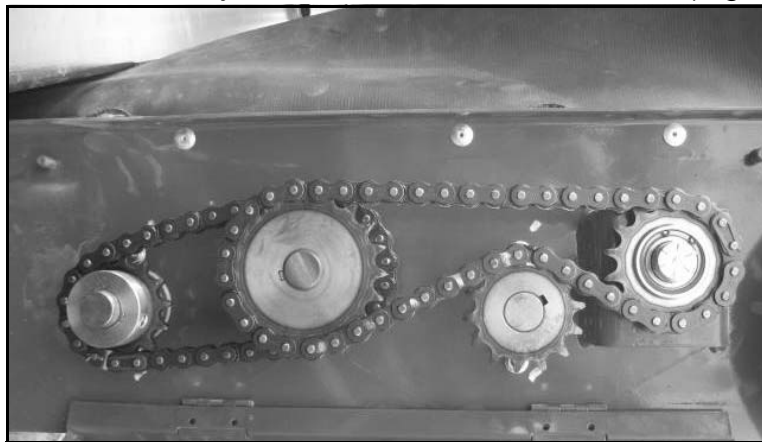

Figure 7.6 Hopper Chain Drive
- b. For the Hopper: loosen the 2 bolts of the flighting bearing on the side that needs adjustment and set the chain slack (Figure 7.6).